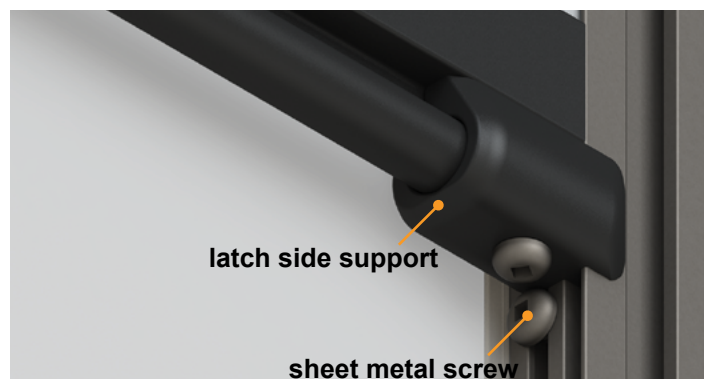

Fig.3
5. Install one sheet metal screw underneath the latch side support of the Screen Shot in the channel closest to the screen (Fig.3).